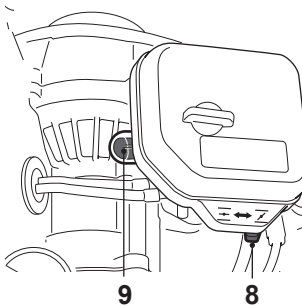

Fig. 9
- > If the engine is cold, move the choke lever (8) to the "CLOSE" position  (Fig. 9) and depress the primer (9) 7 - 10 times until fuel is visible.